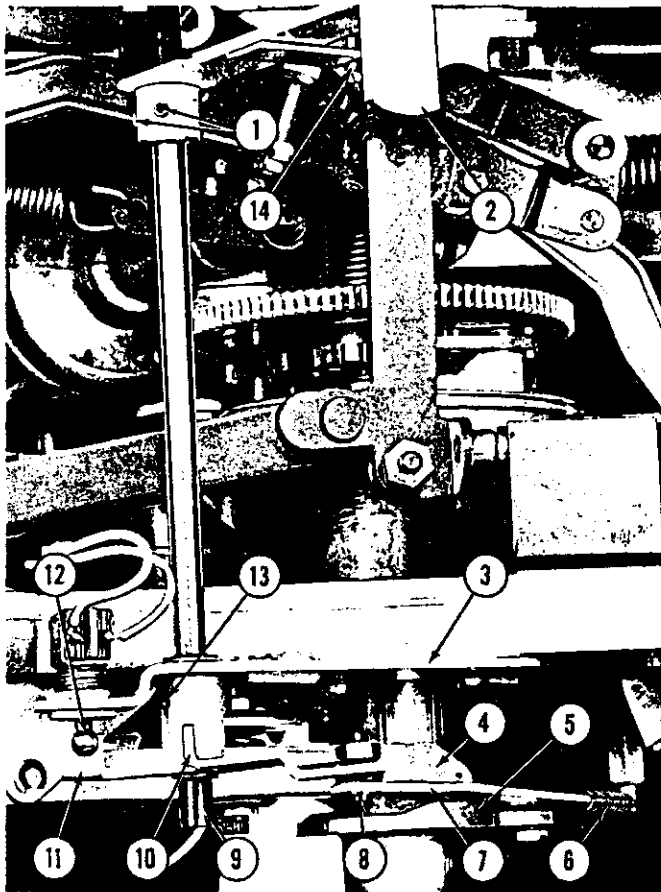
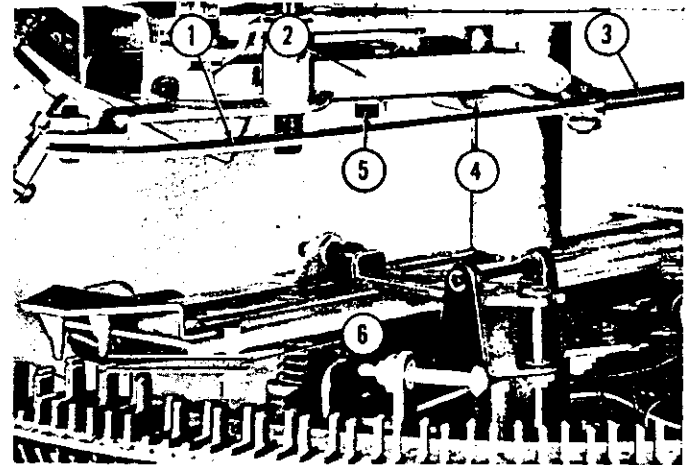
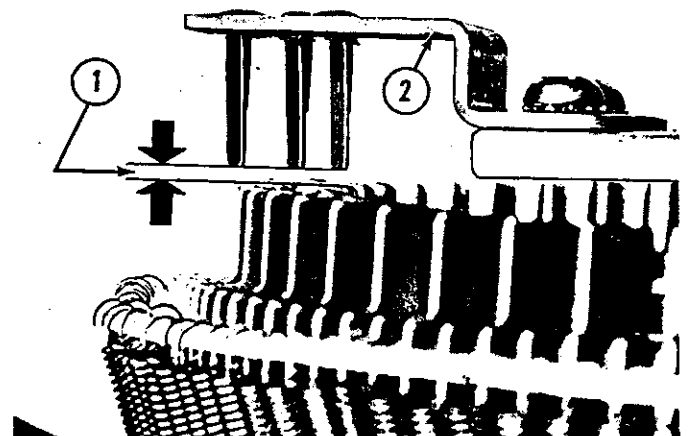
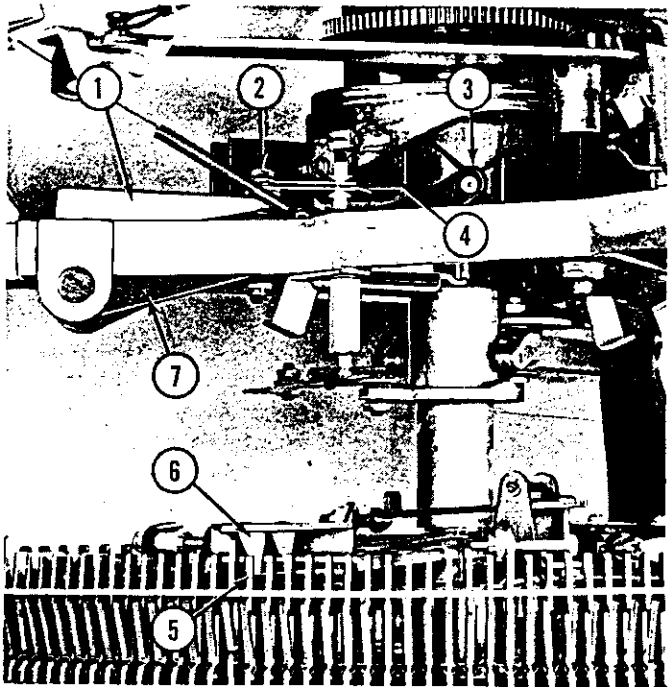

Fig. 77. LOADING SWITCH AND RELEASE LEVER ADJUSTMENT
Fig. 78. RELEASE LEVER, LOADING POSITION
Fig. 79. SELECTOR CRANK CLEARANCE, ADJUSTMENT
Fig. 80. CANCEL LEVER SETTING
1. Setting for Loading Switch and Lever. (Figs. 77 and 78)
After assembly of the selector crank, the loading switch and release lever group may be adjusted. The main cam should be in its "at rest" phase of the cycle or a position where there is no cancel action on the sleeve and bushing assembly (Item 5, Fig. 77).
(2) When the release lever is pulled forward to the loading position, the link (Item 7) should stop against the lower end of the shaft (Item 9) without pressure against the actuated switch handle (Item 12) and the rollers of the "stop lever and roller assembly" (Item 4) must be entirely off the cam surface of the flange on the "sleeve and bushing assembly" as shown at Item 4, Fig. 78. With the loading lever in the operating position as shown in Figure 77, the lever (Item 2) should be against the stop pin (Item 14). The loading switch should be actuated by the switch tab (Item 11) without pressure against the actuated switch handle (Item 12). The actuator arm and hub assembly is pinned to the shaft (Item 9) with a roll pin (Item 13). Adjustment will therefore be made at the hub of the release lever (Item 2) by means of the two allen set screws shown at Item 1. Over-center action of the "release lever and shaft assembly" is provided by the retracting spring (Item 6). When the release lever is in the operating position as shown in Figure 77 the rollers of the stop lever (Item 4) should be on the ramps of the flange as shown at Item 5, Fig. 77). When the release lever is in the
forward (released) position, the rollers of the stop arm should be off the ramps as shown at Item 4, Fig. 78.
m. Selector Crank Clearance. (Figs. 78 and 79)
Adjustment of the upward limit is provided by means of the adjusting screw (Item 5). The setting of this adjustment should be made with the release lever in its operating position as shown in Figure 77 with the rollers on the ramps of the flange as indicated at Item 5. With selector latch pins reset as shown in Fig. 79 the tips of the selector crank should clear the latch pins by $1/16''$ to $3/32''$ as indicated at Item 1, Figure 79. Assuming the electric selector to be properly aligned, this dimension should be constant for all selector latch pins when in their reset position. When the release lever is moved to the loading position as shown in Figure 78 the tips of the selector crank should be well clear of any released latch pins as shown at Item 6.
n. Cancel Lever Setting. (Fig. 80)
As stated in paragraph "o" the sleeve and bushing assembly is movable up and down. The lower end of the sleeve rests on the selector crank, which enables the sleeve and bushing to push the selector crank downward. Thus, when one of the tips of the "tip and mounting bracket assembly" (Item 2, Fig. 79) is engaged with a released selector latch pin, the selector crank and tip may be depressed by the cancel lever to reset the latch pin. An approved method for adjustment of the cancel lever (Item 1, Fig. 80) follows: